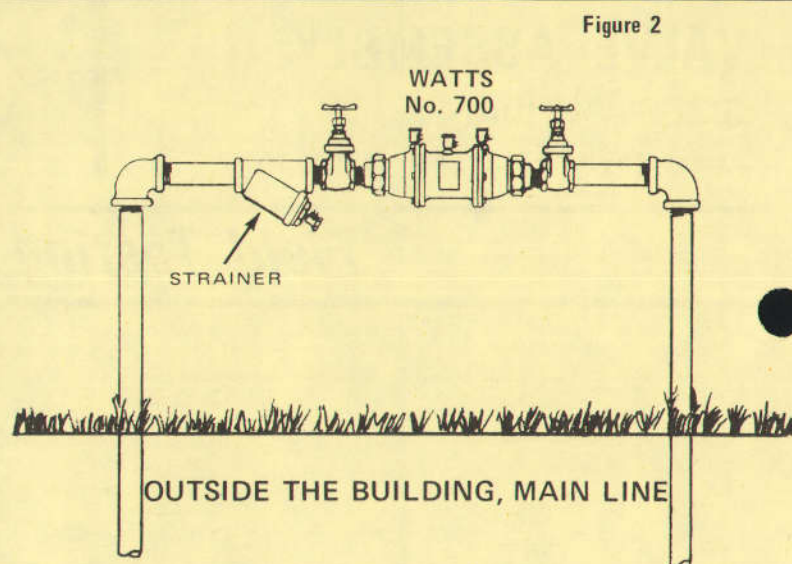

Figure 2
F. In an area where freezing conditions do **not** occur, Series 700 can be installed outside of a building. The most satisfactory installation is above ground and should be installed in this manner whenever possible. Fig. 2.